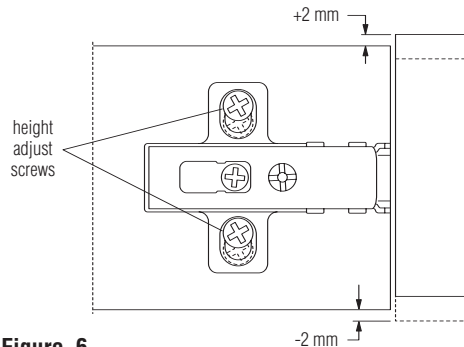

Figure 6
1. For **door height adjustment** of  $\pm 2$  mm, loosen the two height adjust screws on each hinge and move door up or down. Re-tighten screws (Figure 6).